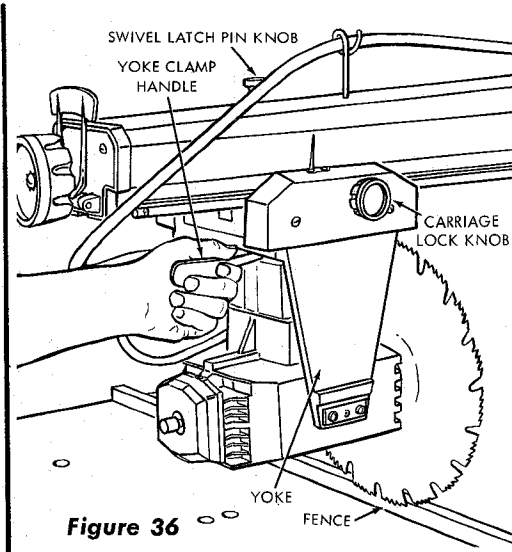
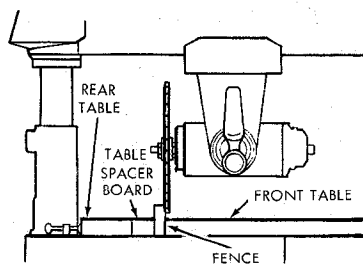
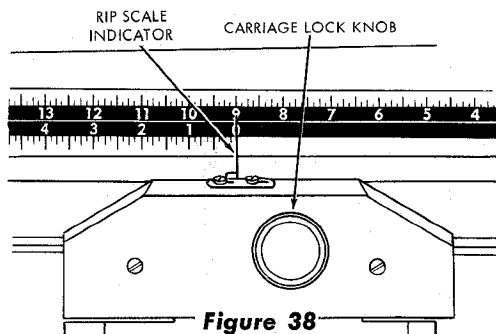

Figure 36
Figure 37
Figure 38
- a. With the fence in its normal position (next to the front table), loosen the yoke clamp handle (figure 36), lift up on the swivel latch pin knob and rotate the yoke as shown to index the yoke 90° from the cross-cut position. This will locate the saw blade between the motor and the fence. Lock the yoke by tightening the yoke clamp handle. (See figure 36.)
- b. Loosen the carriage lock knob (figure 36) and move the motor until the edge of the blade, when spun by hand, just touches the front face of the fence. (See figure 37.) The rip-scale indicator (on the right-hand side of radial arm) should now read "0"-inches on lower portion of the "In-Rip" scale. (See figure 38.) If not, loosen screws and shift the indicator until it is aligned with the "0" mark, then tighten the screws.
NOTE: With the saw blade and fence in the position shown in figure 37, the lower portion of the "In-Rip" scale is used. If the fence is re-located at the extreme rear position, the upper portion of the "In-Rip" scale would be used.